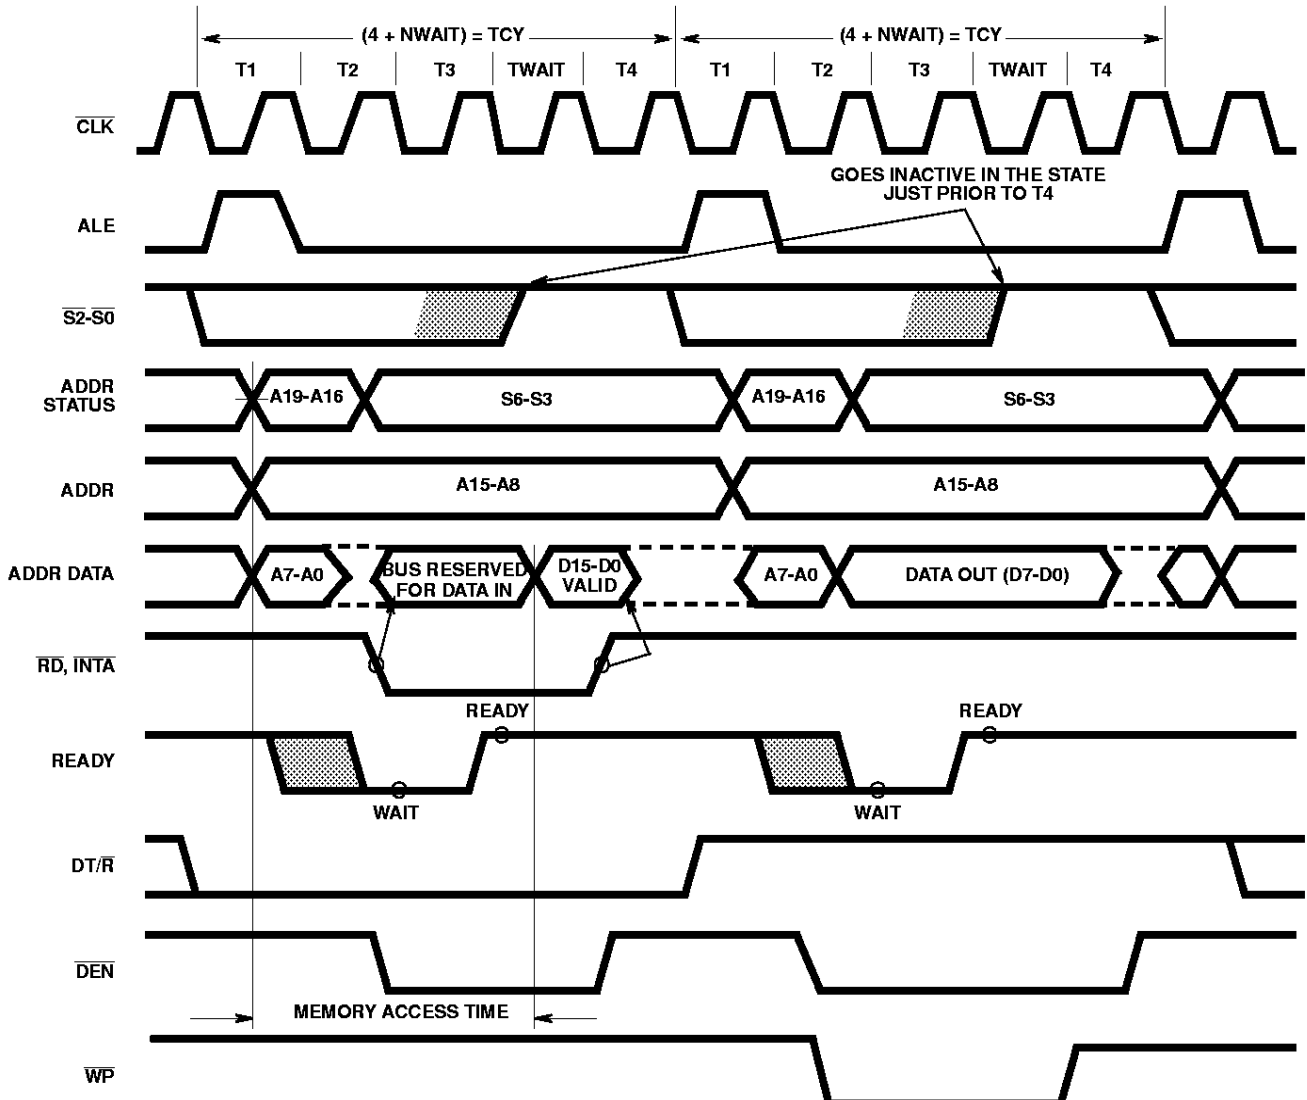

FIGURE 5. BASIC SYSTEM TIMING
Each processor bus cycle consists of at least four CLK cycles. These are referred to as T1, T2, T3 and T4. (See Figure 5). The address is emitted from the processor during T1 and data transfer occurs on the bus during T3 and T4. T2 is used primarily for changing the direction of the bus during read operations. In the event that a "Not Ready" indication is given by the addressed device, "wait" states (TW) are inserted between T3 and T4. Each inserted "wait" state is of
The read cycle begins in T1 with the assertion of the address latch enable (ALE) signal (see Figure 5). The trailing (low going) edge of this signal is used to latch the address information, which is valid on the address data bus (ADO-AD7) at this time, into the 82C82/82C83 latch. Address lines A8 through A15 do not need to be latched because they remain valid throughout the bus cycle. From T1 to T4 the IO/M signal indicates a memory or I/O operation. At T2 the address is removed from the address data bus and the bus is held at the last valid logic state by internal bus-hold devices. The read control signal is also asserted at T2. The read ( $\overline{RD}$ ) signal causes the addressed device to enable its data bus drivers to the local bus. Some time later, valid data will be available on the bus and the addressed device will drive the READY line HIGH. When the processor returns the read signal to a HIGH level, the addressed device will again three-state its bus drivers. If a transceiver (82C86/82C87) is required to buffer the local bus, signals DT/R and DEN are provided by the 80C88.